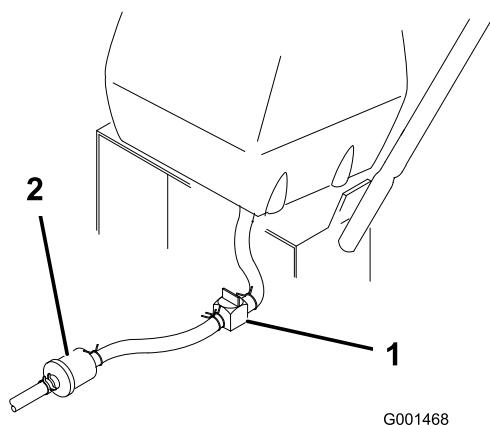

Figure 31
- Close the fuel shut-off valve at the fuel tank (Figure 31).
- Squeeze the ends of the hose clamp together and slide it up the fuel line away from fuel filter (Figure 31).
- Pull the fuel line off the fuel filter (Figure 31). Open the fuel shut-off valve and allow the gasoline to drain into a gas can or drain pan.
7. Open fuel shut-off valve at fuel tank (Figure 31).
3. Close fuel shut-off valve at the fuel tank (Figure 31).